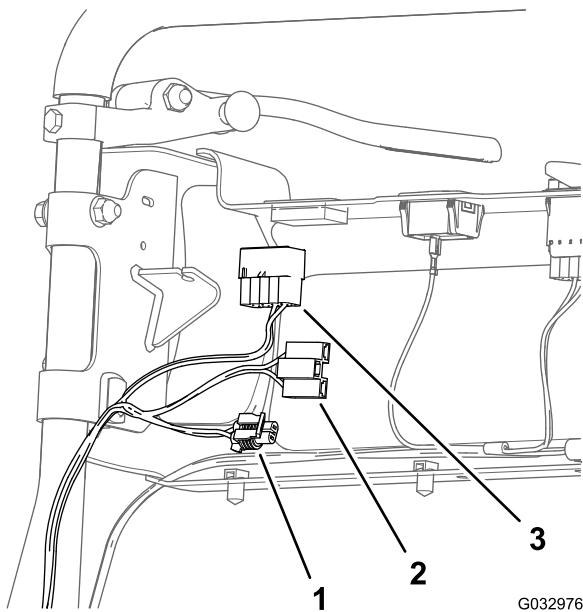
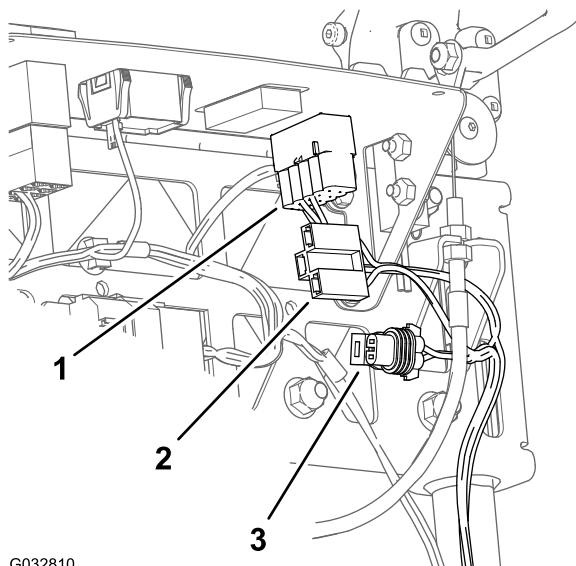

Figure 13
Figure 14
- Use the 3-socket connector when installing the optional **Wireless-Hour Meter Kit** (Figure 13 and Figure 14).
- Use the 2-socket connector light harness interconnect when installing the optional **LED Light Kit** (Figure 13 and Figure 14).